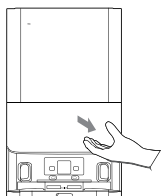

Fig. 19
1. Open the docking station cover. [Fig. 19]